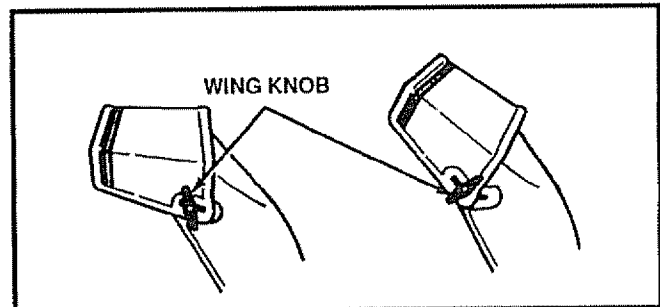

FIG. 9
- Loosen the wing knob on the chute deflector and move the deflector to set the **distance**. Move the deflector **UP** for more distance, **DOWN** for less distance. Then tighten the wing knob (Fig 9).